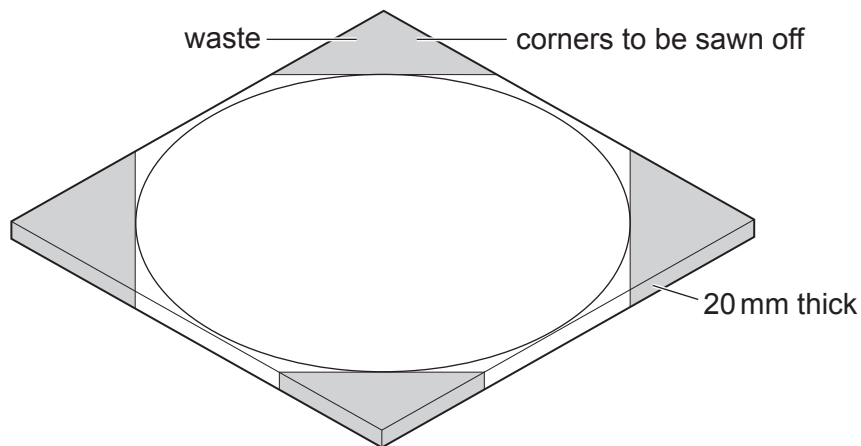

Fig. 11.2
Fig. 11.2 shows the shape of the table top marked out on a hardwood board.
- (i) Name **two** machine saws that could be used to remove the waste wood shown in Fig. 11.2.